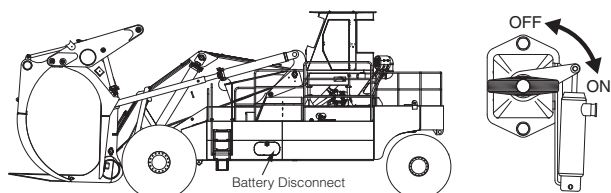

Figure 5 Battery Disconnect Switch shown in ON position
4. Set Battery Disconnect to OFF. The Battery Disconnect switch is located in the battery Box on the left side of the Lumberjack (see Figure 5).